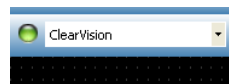

Figure 15: Successful Progeny ClearVision™ sensor selection
- Once ClearVision is selected you will see a green LED (Figure 15). This verifies the sensor is now connected to the computer.